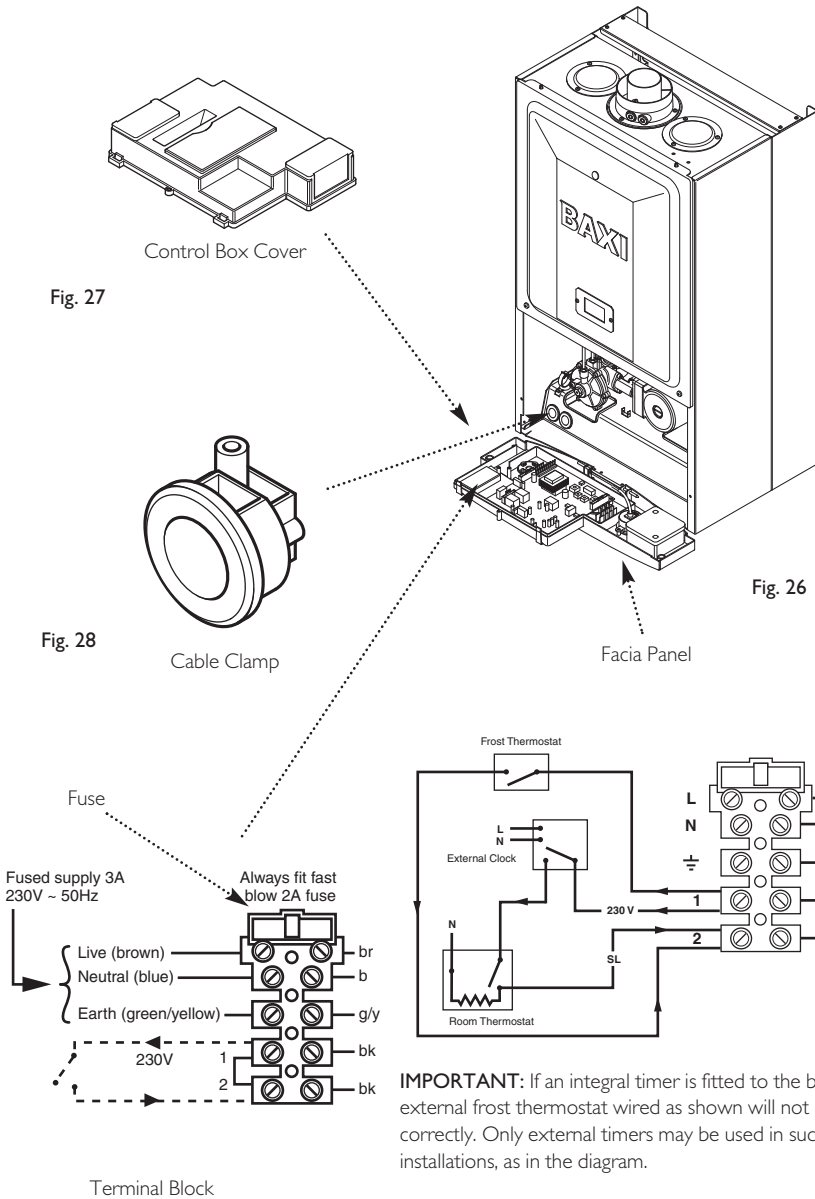

Fig. 29
7. To connect external control(s) remove the link between terminals 1 & 2. The 230V supply at terminal 1 must be connected to the external control. The switched output from the external control must be connected to terminal 2 (Fig. 29).
NOTE: If the room thermostat being used incorporates an anticipator it **MUST** be wired as shown in Fig. 29.